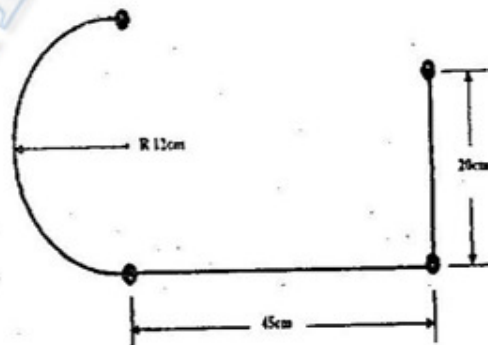

Fig. Q. 12 (b)
- (b) Find the shear centre location of the section shown in Fig. Q. 12 (b). The webs are ineffective in bending and area of each stringer = 2 cm². web thickness is 2 mm throughout. (16)